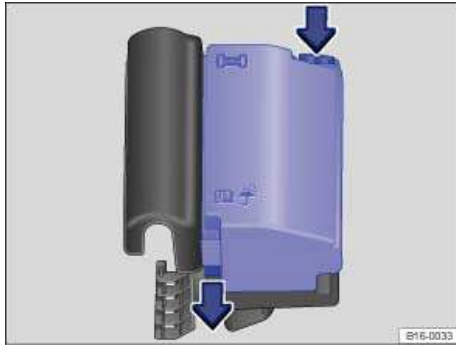

Fig. 215 In the engine compartment: Fuse box cover.
- Move the release tabs in the direction of the arrows ⇒ fig. 215 to unlock the fuse box cover.